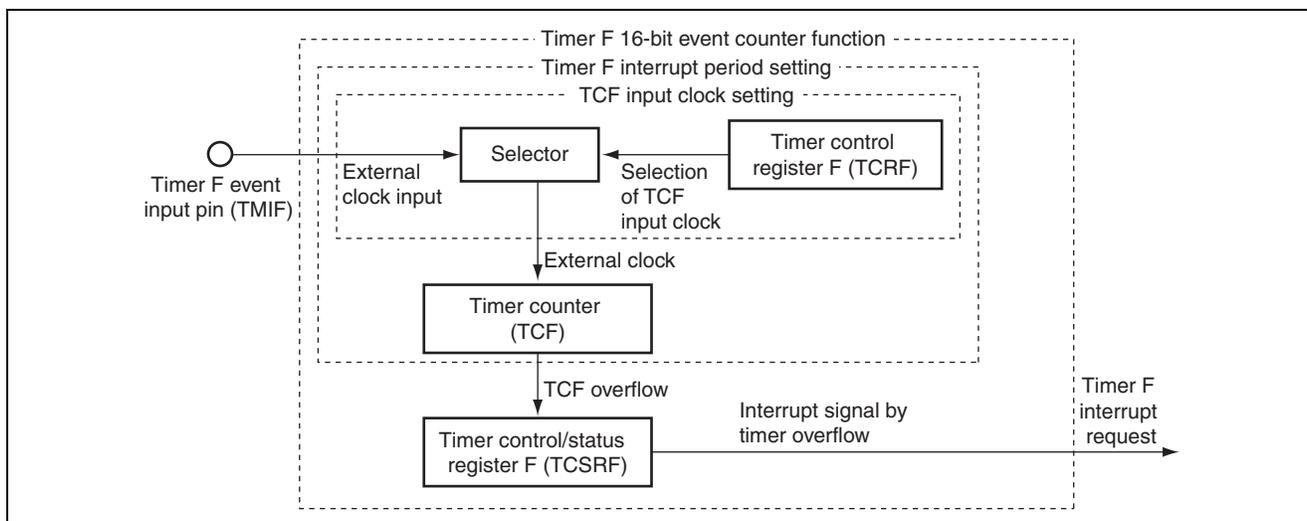

Figure 2.1 Block Diagram of Timer F 16-bit Event Counter Function
- A. Figure 2.1 shows the block diagram of the Timer F 16-bit event counter function which is described below.